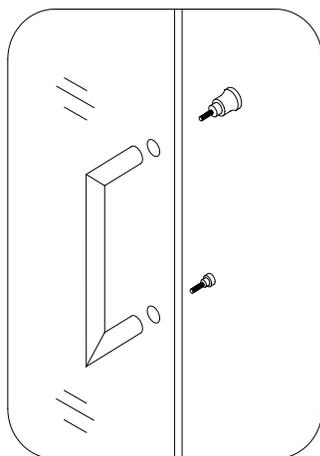

Fig 26
21. Mount the **Handle (#02)** to the **Glass door (#01)**. (**Fig 26**)